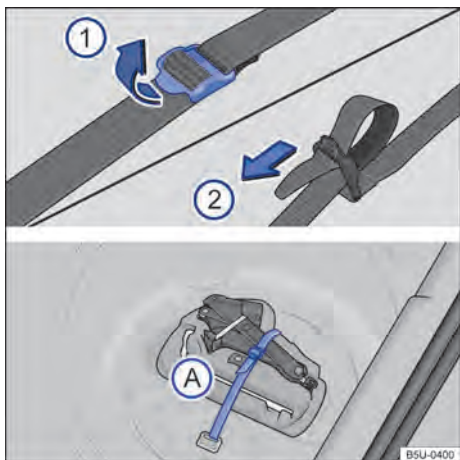

Fig. 164 On the luggage compartment: vehicle toolkit securing strap and vehicle toolkit.
To release the securing strap → Fig. 164 (A), pull the buckle in the direction of the arrow ①.